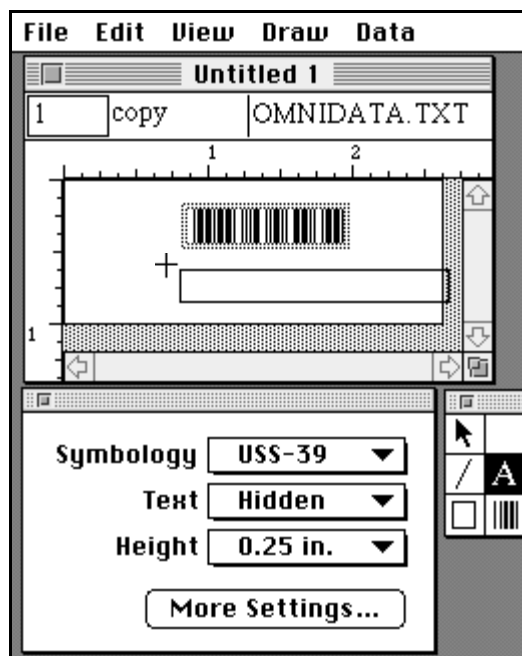

Figure 2-20 Text Tool Selected and Step 11 Completed
11. Select the text tool from the tool palette and click on a location in the work area under the bar code object. See Figure 2-20.